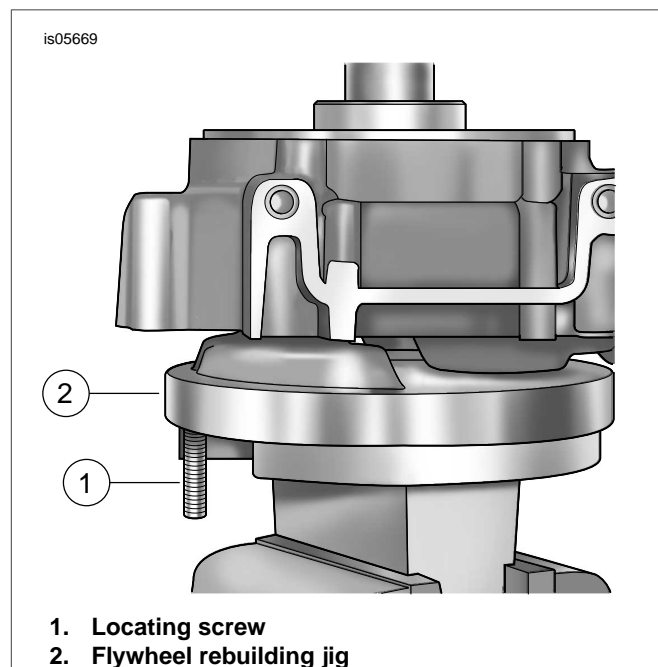

Figure 19. Place Locating Screw in Balancing Hole to Prevent Rotation
- c. See Figure 19. To prevent rotation when dummy compensating sprocket shaft nut is tightened, obtain locating screw from FLYWHEEL REBUILDING JIG and insert in deepest balancing hole at bottom of flywheel assembly (right side). Turn flywheel slightly so that screw makes firm contact with flat on jig. Tighten nut to 150-165 ft-lbs (203-224 Nm).